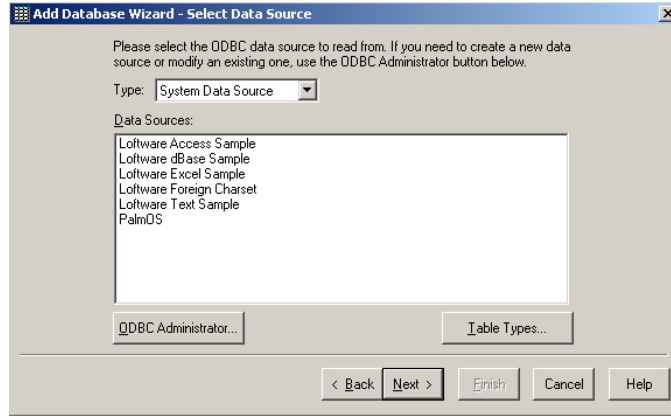

Figure 73
Step 4 – In the TYPE dropdown, select SYSTEM DATA SOURCE and click ODBC ADMINISTRATOR (Figure 73)